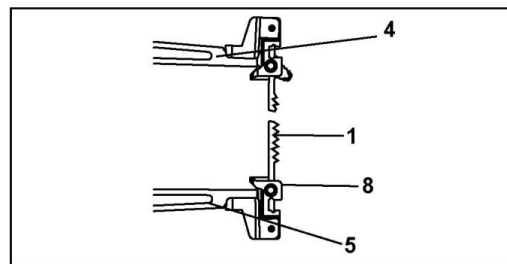

Fig. 14
2. Remove the blade (1) from the upper (4) and lower (5) blade holder by pulling forward to release, and lift the blade through the access hole. (Fig. 14)
3. Tilt the table to a 45° angle and lock the bevel lock knob to view lower blade holder (8). (Fig. 14)